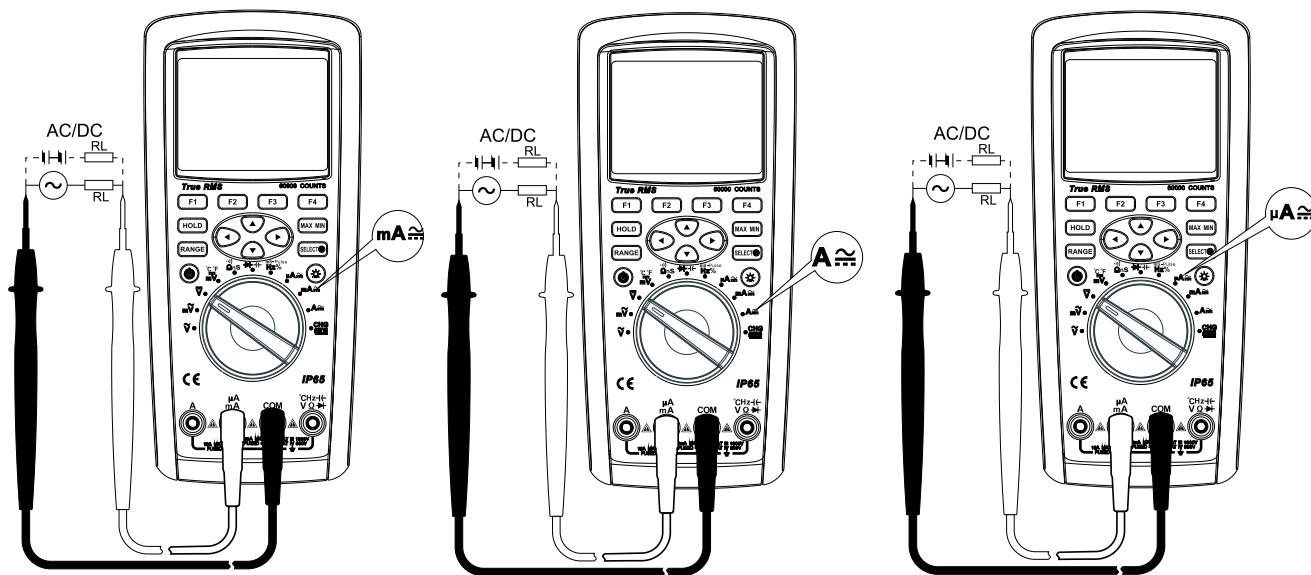

Figure 7
- 2) Set the rotary switch to the position as shown in Figure 7. Press the key SEECT to select the required AC or DC to be measured. Connect the test leads to the test circuit in series.